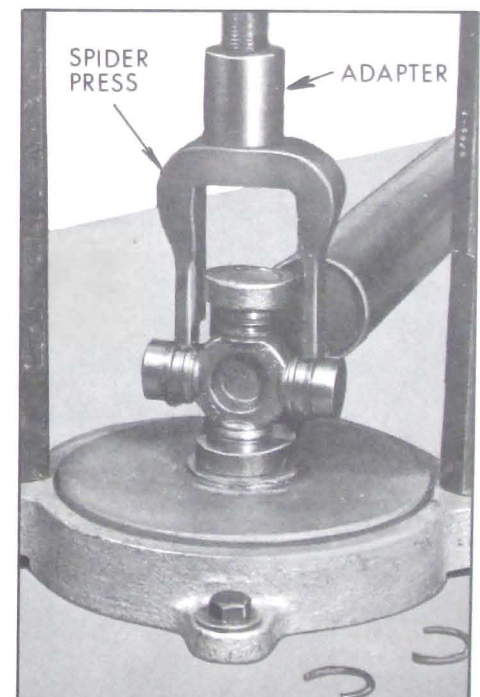

Figure 6-46—Pressing Out U-Joint Bearing
2. Set up J-6180-01 Power Ram and J-6207 Hydraulic Pump in preparation for removing the propeller shaft bearings. With this use Axle Bearing and Retainer Replacer J-8853 as a base plate. Attach Adapter J-9522-2 onto the ram screw. See Figure 6-46.
3. Position the propeller shaft universal joint into the fixture as set up in Step 2 with a bearing over the hole in Replacer J-8853. Install Spider Press J-9522-4 on spider. See Figure 6-46.